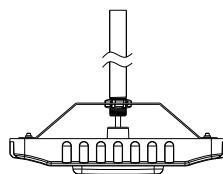

Figure 7
2. Unscrew the nut from customer supplied 3/4" NPT stem, make the stem hole on mounting bracket through 3/4" NPT stem, then screw the nut back to 3/4" NPT, and fix it. (Figure 7).